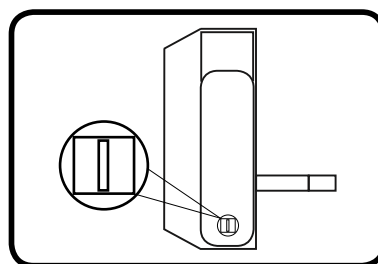

Fig.2
2. Re-fit the keypad and inside keypad so they are now on opposite sides, ensuring that the flat part of the spindle is facing up and down or at the 12 and 6 o'clock position as per **fig.2** below. Please note the BL3400 KO/DKO model comes with a split spindle arrangement and both spindles are to be positioned the same.